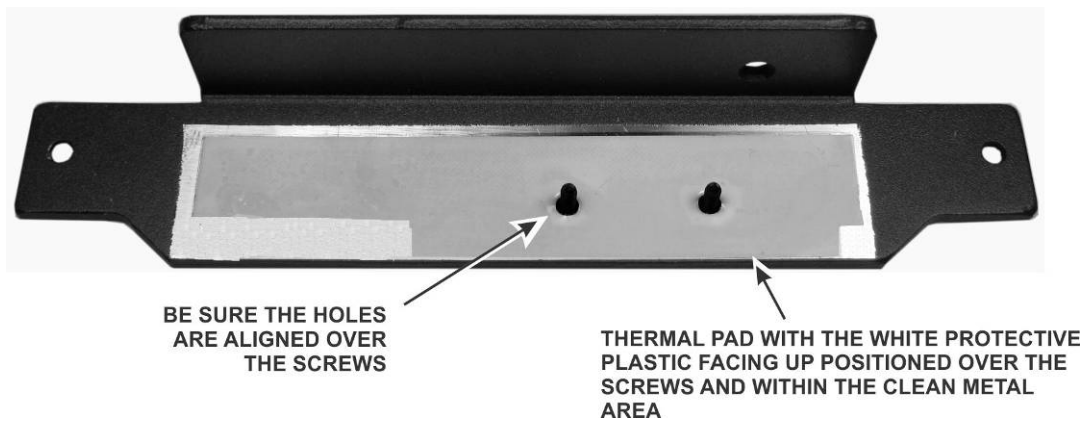

Figure 36. Placing the Thermal Pad on the Heat Sink.
□ Carefully position the thermal pad on the heat sink as shown in Figure 36. Be sure the thermal pad is against the metal and the white plastic protective film is facing upward. Rub the center area of the thermal pad to help it adhere to the metal. Remove the screws and return them to the proper parts envelope.